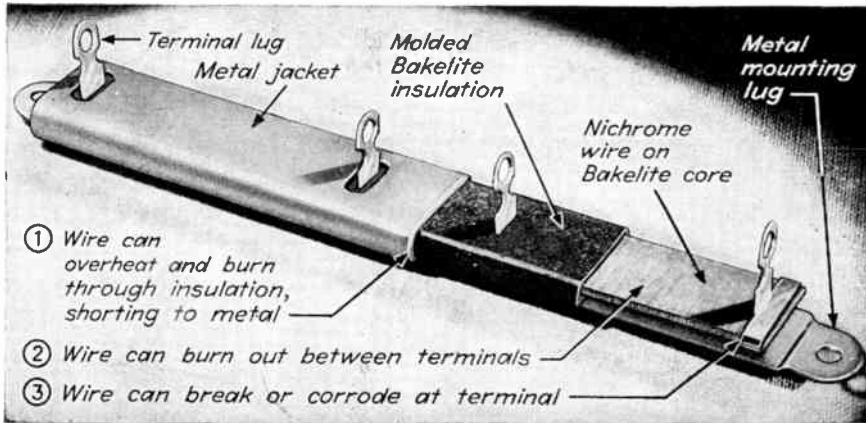

Fig. 3. Ways in which a metal-encased wire-wound resistor can go bad
The other type of tapped resistor, used much more often, is flat rather than round, and is generally enclosed in a metal housing or can, as shown in Fig. 3. The metal-encased types are sometimes called Candohms, this being the trade name of one manufacturer of these units. The metal can protects the resistance wire and its insulation against damage and helps to get rid of the heat generated by the resistor. Metal-encased tapped resistors are generally riveted directly to the side of the chassis, so that heat is transferred directly from the metal can to the heavy metal chassis.
**How Tapped Resistors Go Bad.** Since tapped resistors are exactly the same as ordinary wire-wound resistors except for the extra terminals, they have the same defects. They can burn between any pair of terminals, or one of the terminals can get loose. In addition, the metal-encased types can become grounded to their metal can and the chassis when the insulation burns up, as shown in Fig. 3.